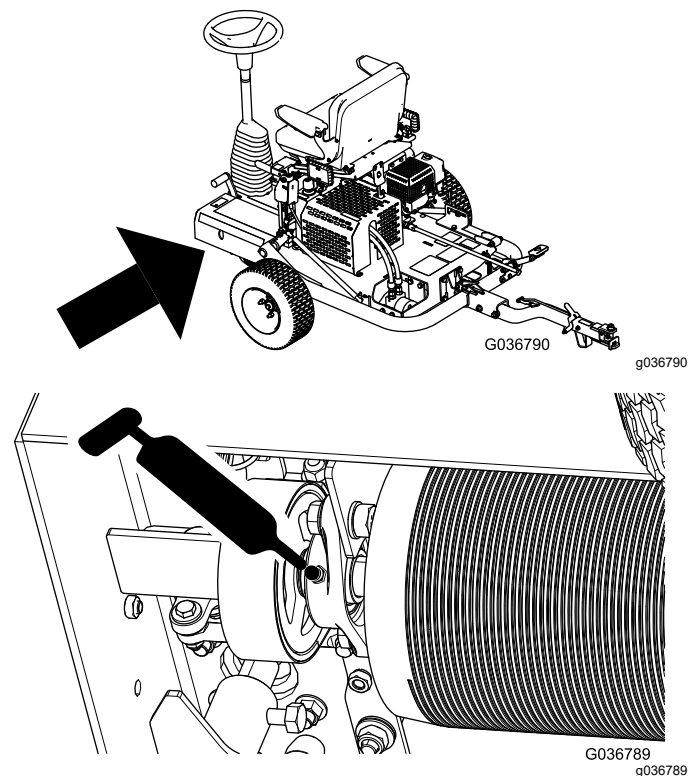

Figure 26
3. Pump grease into the grease fitting as shown in Figure 26.